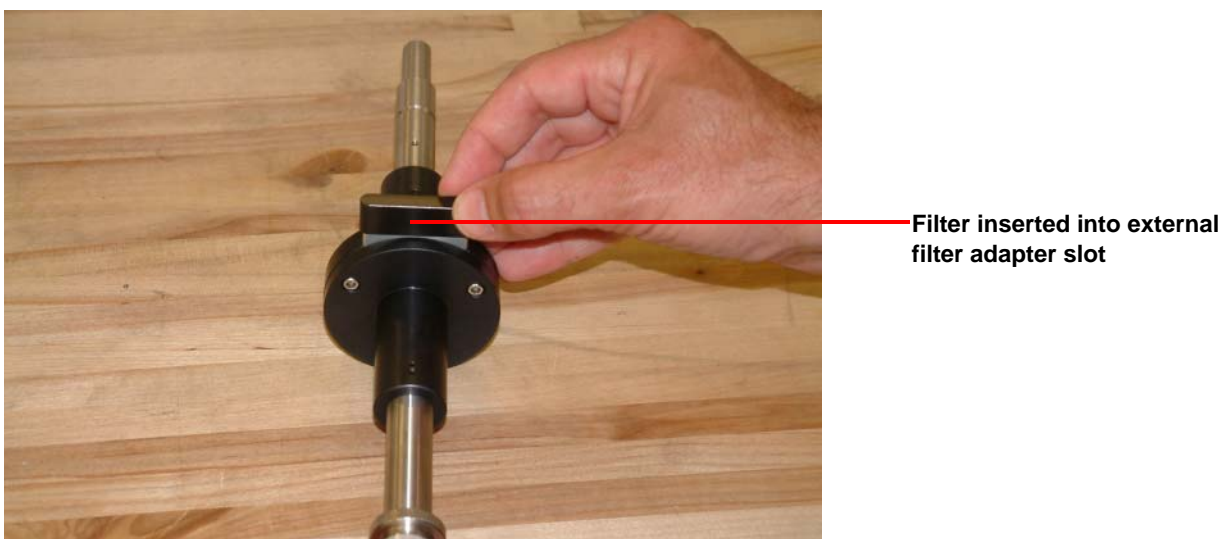

Figure 15 Installing the filter in the external filter adapter slot.
- 4 Insert the desired filter into the slot on the external filter adapter assembly, as shown in Figure 15. Ensure that the filter is fully seated.